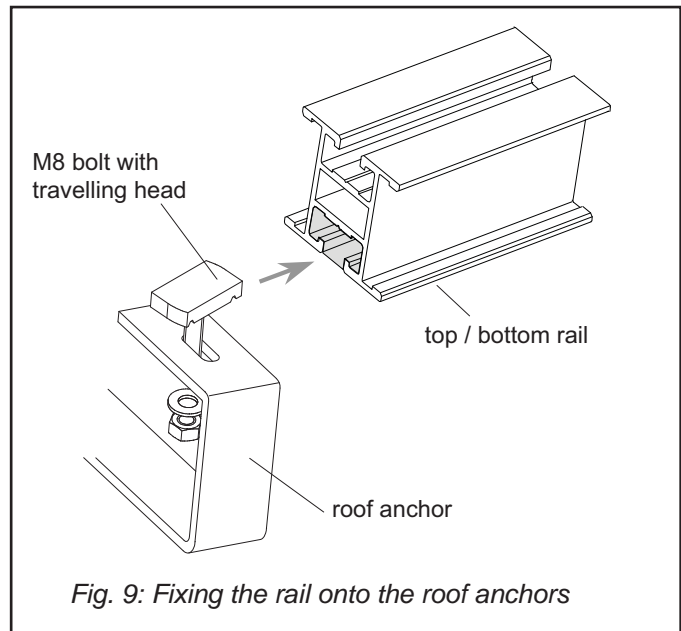

Fig. 9: Fixing the rail onto the roof anchors
- Then mount the U-shaped bracket (Fig. 9) on the bolt, between two nuts and washers.
- Align the travelling screw head (Fig. 9) with the horizontal rail and shift the rail onto it, or shift the screws into the rail first and fix to the anchors. Use serrated lock washers to fix the nuts.